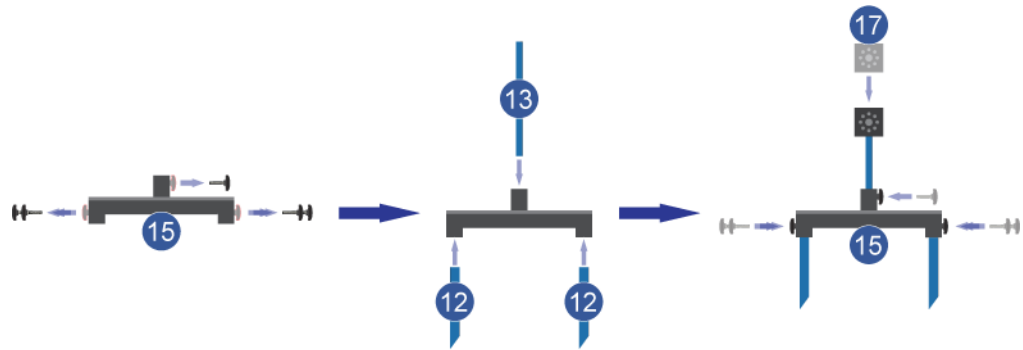

Figure 17 - ALT-930-CKIT Calibration Kit Assembly – Step #1
As shown in Figure 17, unscrew and remove the five (5) finger-knob bolts from the leg/post clamps attached to the top and bottom of the Horizontal Support Piece15. Insert the (4) Mounting Structure Legs12 into the leg clamps on the under side of the Horizontal Support Piece15. Insert the Mounting Block Post13 into the antenna mounting post clamp on the top side of the Horizontal Support Piece15. Re-insert the five (5) finger-knob bolts and tighten. Slide the Balun-Dipole Mounting Block17 onto the Mounting Block Post13 for the desired orientation/polarity of the Balun-Dipole (see section 5.1).